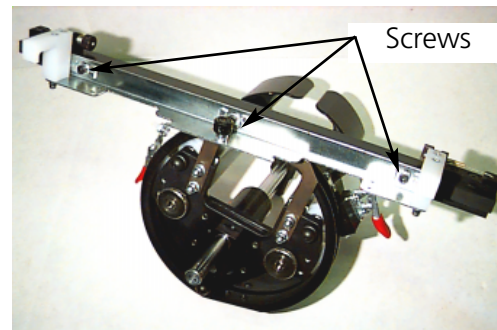
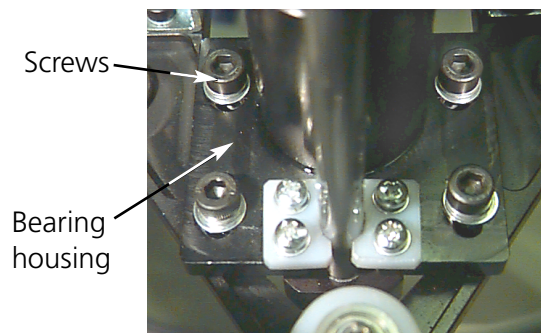

Figure 3-7
Figure 3-8
3. Make sure that the 3 socket-head cap screws along the interface bracket (Figure 3-7) and 4 socket-head cap screws which hold the bearing housing (Figure 3-8) are slightly loose.
11. Tighten the 3 socket-head cap screws along the interface bracket until they barely contact the bracket using provided 3mm short arm hex allen wrench. The interface bracket should still be able to move in up-down direction. Refer to Figure 3-7 for screw locations.